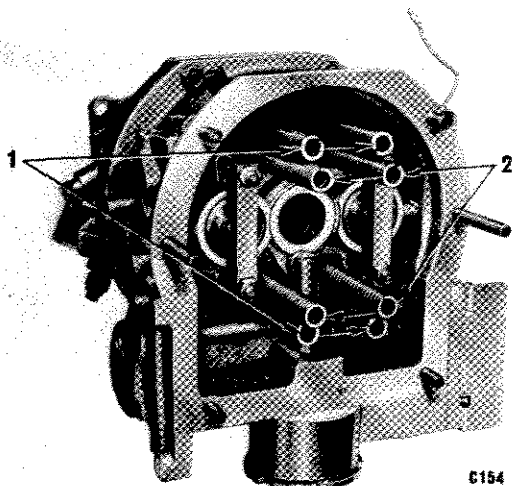

Fig. 2. Overdrive thrust springs
Referring to Fig. 2 refit the spring (110) and plunger (109) to the lever (114), then assemble the lever, spring (112) and plate (113) to the top cover, depressing the plunger (109) with a screwdriver as the lever end is engaged in the selectors. Secure the lever by fitting the cap (64), cross pin (66) and nut (62).